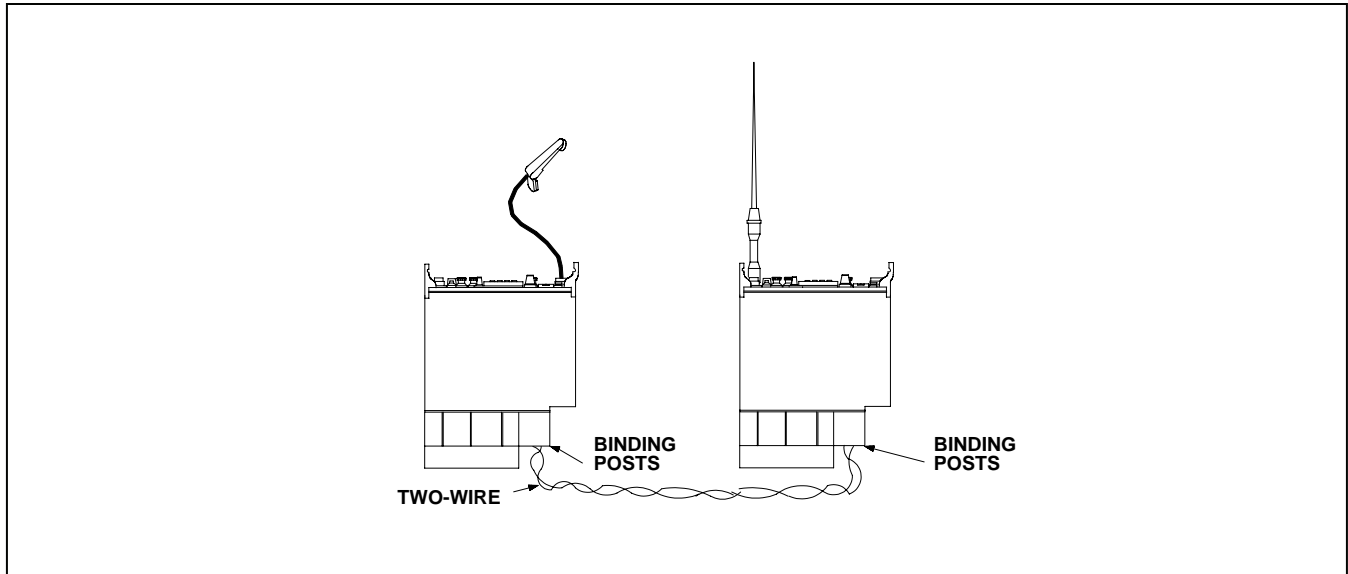
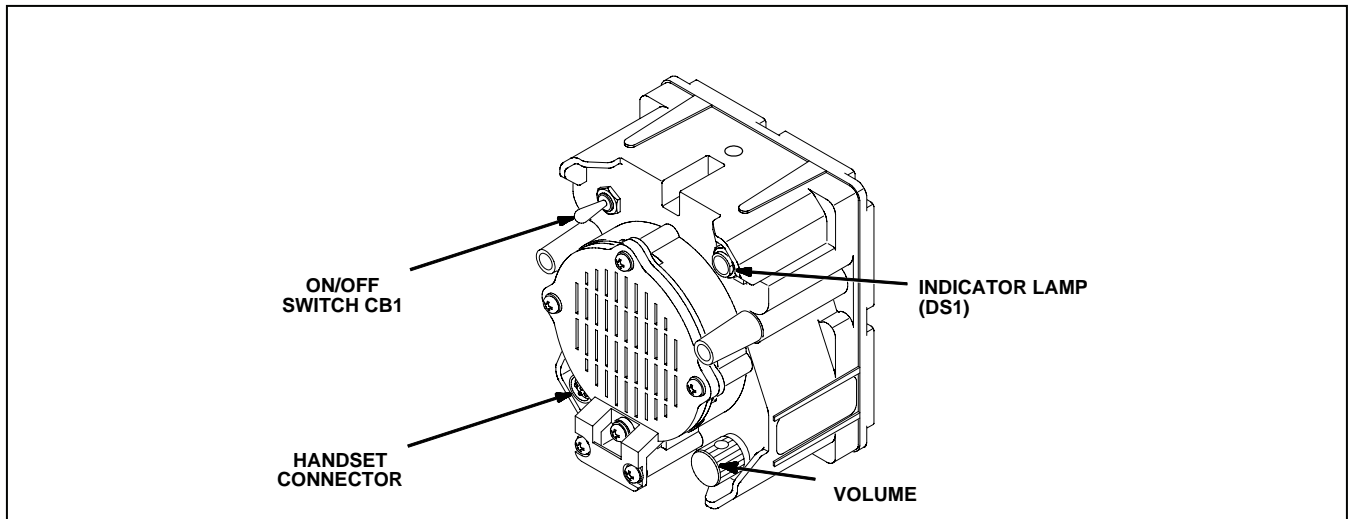
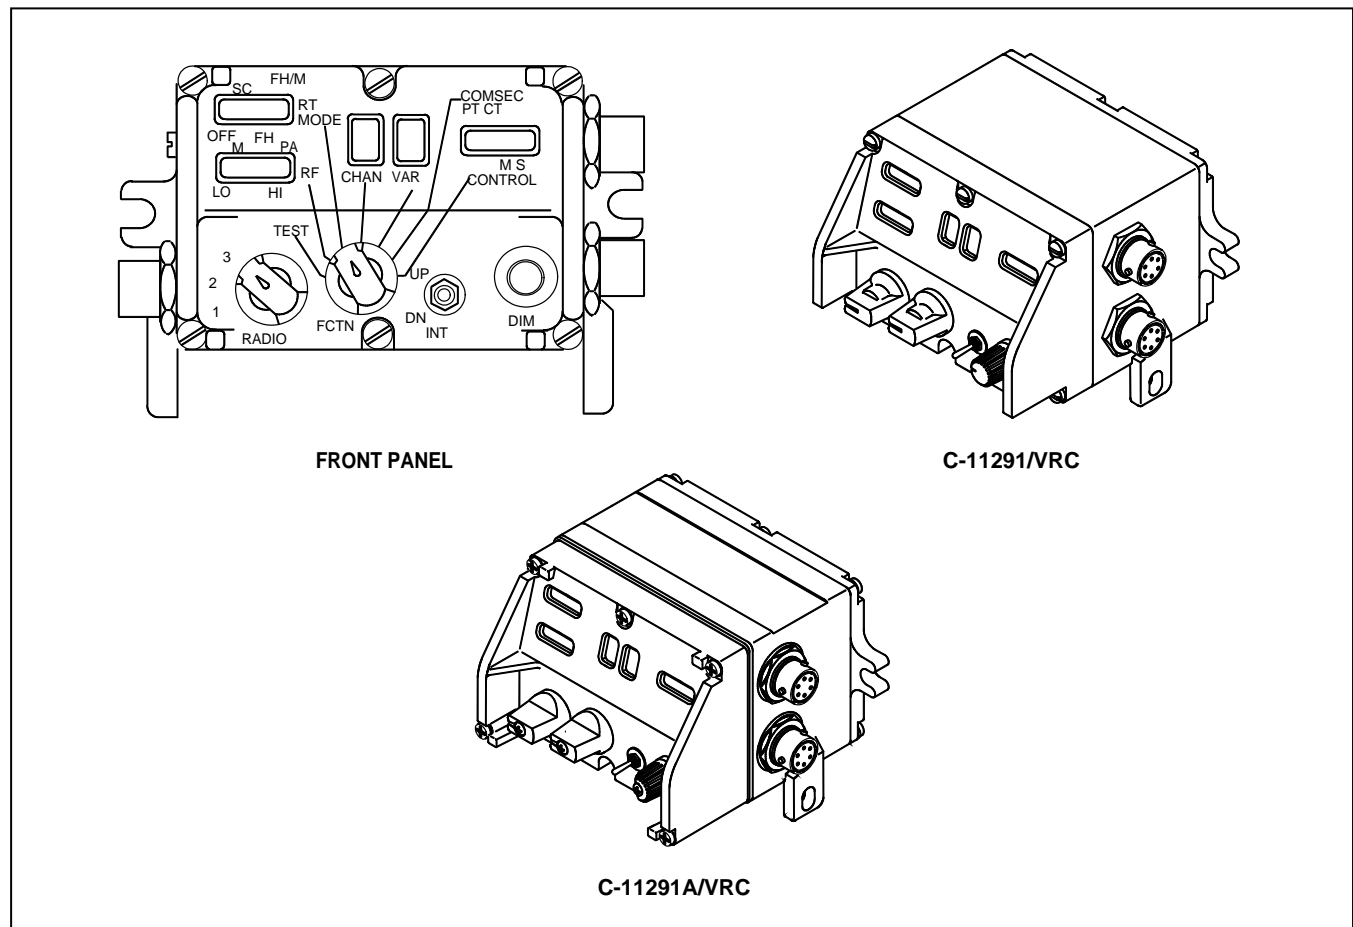

Figure 4-24. DISMOUNTED RCU TO MANPACK RADIO
Figure 4-28. LOUDSPEAKER, LS-671
Figure 4-29. CONTROL-MONITOR
- Dismounted RCU to a manpack radio. (See Figure 4-24, below)
See Figure 4-28 for use of vehicular SIP RT as a RCU. For dismantled SIP RTs, see Figures 4-24 and 4-25. For ASIP RTs, see Figure 4-29. A 2-Wire Adapter is required to connect the 2-wire cable to the ASIP RT.